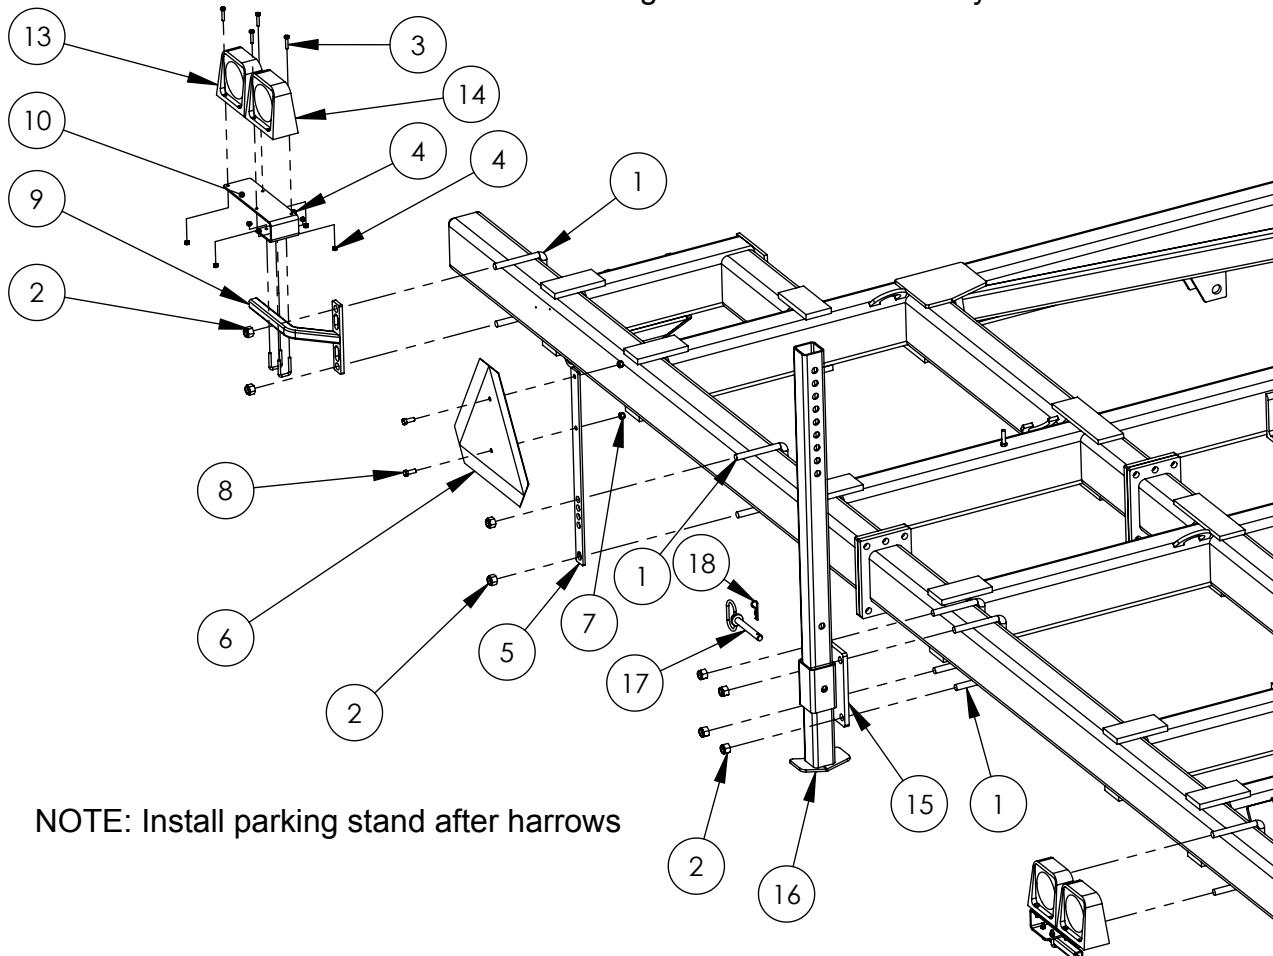

Fig 1. When charging the circuit, prop up cylinder with block of wood. Be sure the rod can extend freely without striking anything.
1. Prop up the cylinder with a block of wood (fig 1). Check to see that the rod will extend completely without striking anything.